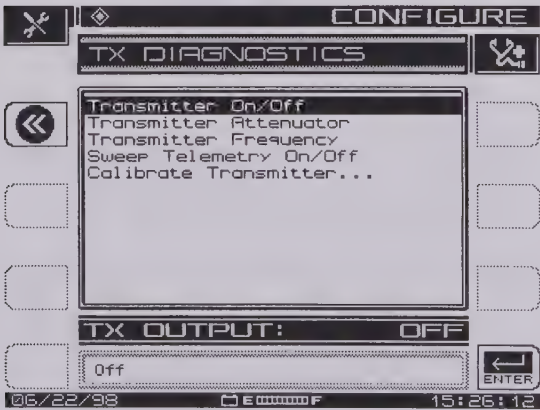

Fig. 2-11 The Transmitter Diagnostics Screen
- **Transmitter Diagnostics:** Highlight this option and press the **Enter** key to access the internal transmitter diagnostic features shown in Fig. 2-11.